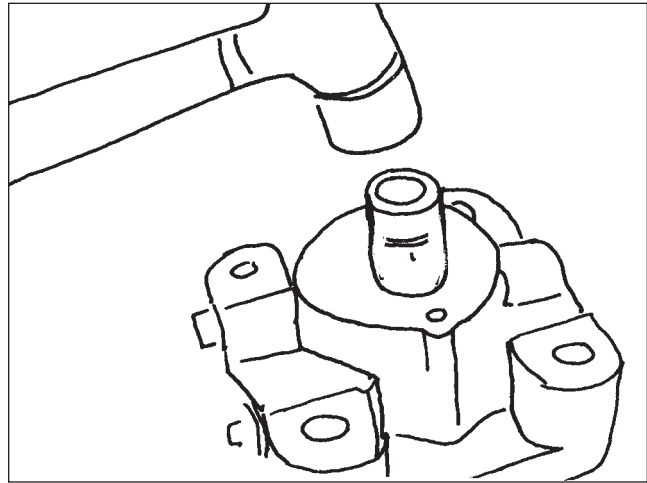

Figure 72
12. Using an appropriate-sized socket or bushing driver, remove the seals by pushing them out using light hammer blows. Discard the old seals (Figure 72).